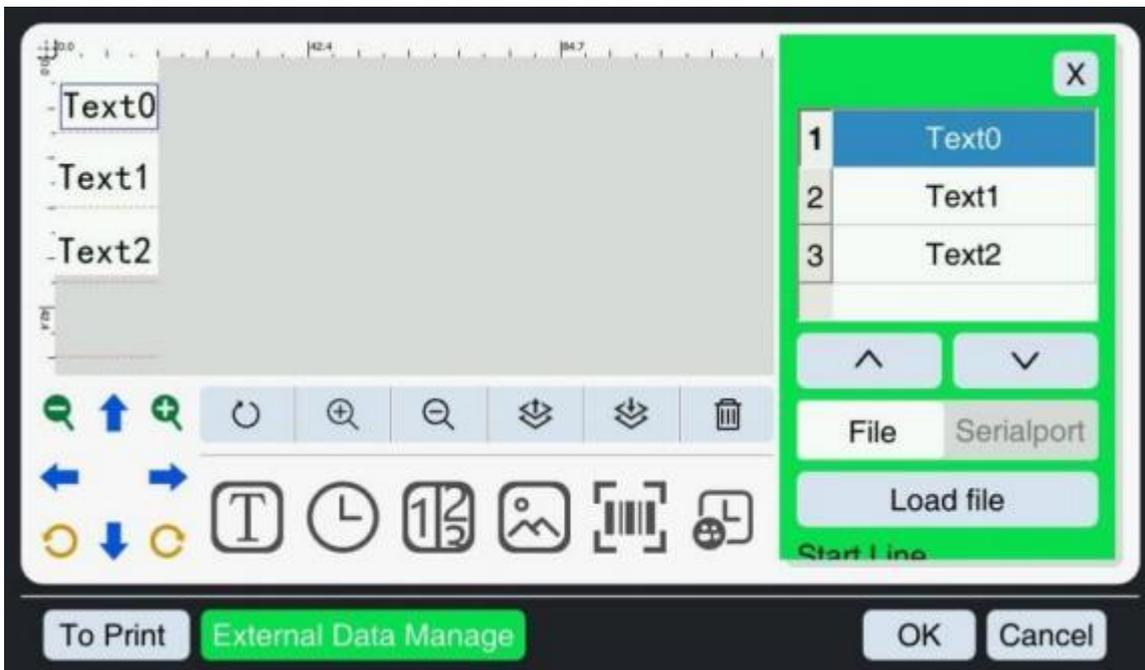

Figure 7-4
4. The system returns to the file editing interface, and you can see that the information in the "information editing area" has been updated to the first line of information in the U disk. As shown in Figure 7-4. After the job is completed, select "Stop", and other parameters are not modified by default.